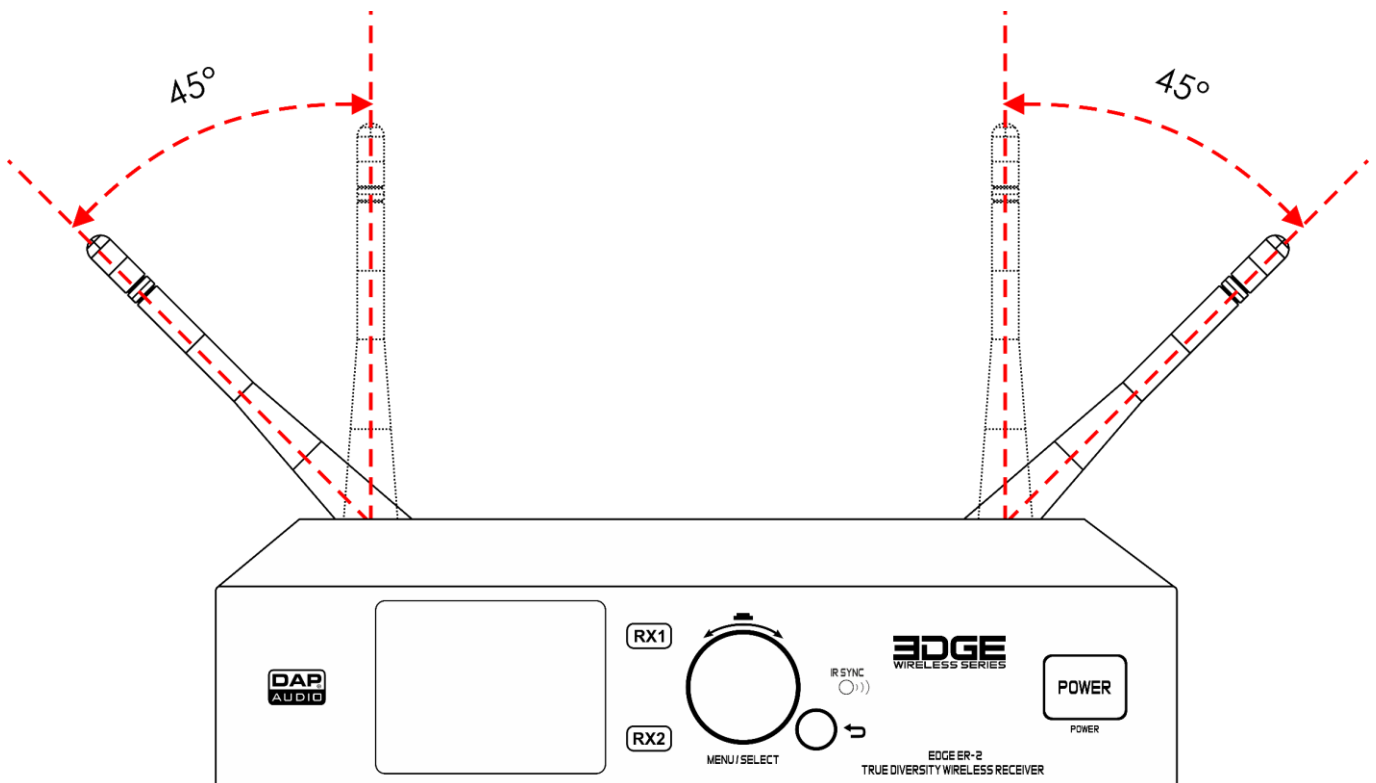

Fig. 09
- 01) Insert the 1st antenna into the **12–15 V DC BNC connector (08)**.
- 02) Insert the 2nd antenna into **12–15 V DC BNC connector (11)**.
- 03) Point the antennas away from each other at an angle of 45° (Fig. 09).